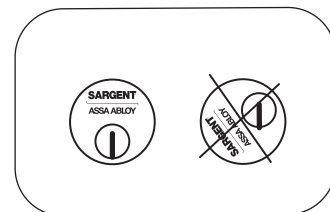

Figure 5-4A
4. Verify that orientation of cylinder has the SARGENT logo as depicted in Figure 5-4A.